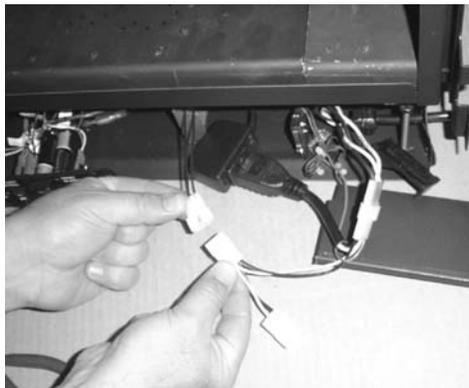

Figure 19
- 12 Attach the power input molex connector on the wiring harness to the molex connector on the insert (see Figure 19). Carefully tuck the wires under the burner, making sure wiring does not contact any hot or moving surfaces. Use wire ties, if necessary, to secure the wiring.